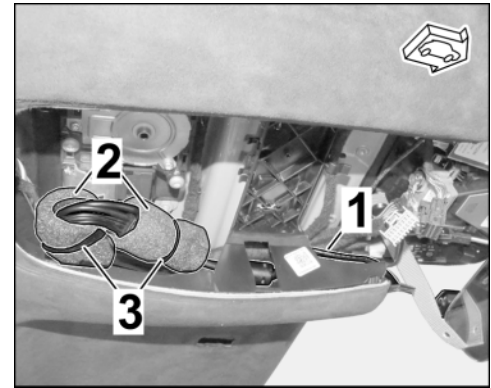

Figure 13
3.1.5 Branch for 2nd camera and secure it to existing components/lines in the roof console area using another protective foam roll (⇒ Figure 13).